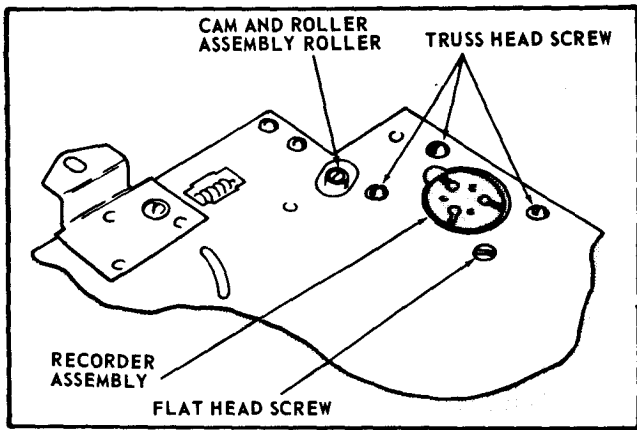

FIGURE 4
7. Remove the No.6-32 x 3/8" Flat Head Screw/Lockwasher and the three No.6-32 x 5/16" Truss Head Screws/Lockwasher which attach the Recorder Mechanism Assembly. See Figure 4.
54. Install the No.6-32 x 3/8" Flat Head Screw/Lockwasher and the three No.6-32 x 5/16" Truss Head Screws/Lockwasher removed in step 7, or the Flat Head Screw/Lockwasher, part number 5560-107 and Truss Head Screws/Lockwasher, part number 9900-151 included in the Kit. Be sure the Screws are tight. See Figure 4.
55. Move the Cam and Roller and Assembly Roller, which fits through slotted hole in the rear Plate Assembly, to reset the Recorder Assembly. See Figure 4.